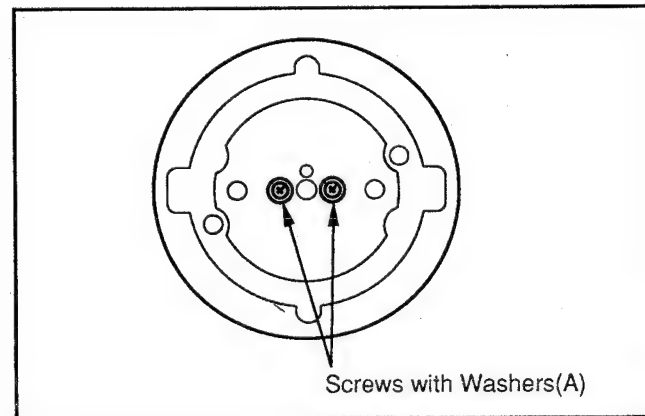

Fig. M2
- Tighten 2 Screws with Washers (A) shown in Fig. M2.
2. Tighten 2 Screws with Washers (A) shown in Fig. M2.